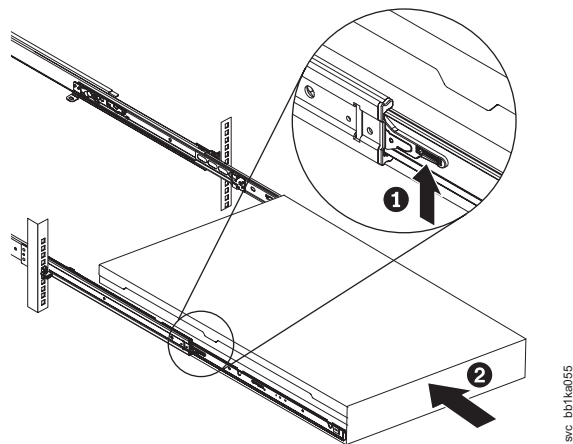

Figure 281. Raising the SAN Volume Controller 2145-CF8 locking levers of the slide rails of the rack
17. Lift the locking levers (**1** in Figure 281) on the slide rails and push the server **2** all the way into the rack until it clicks into place.